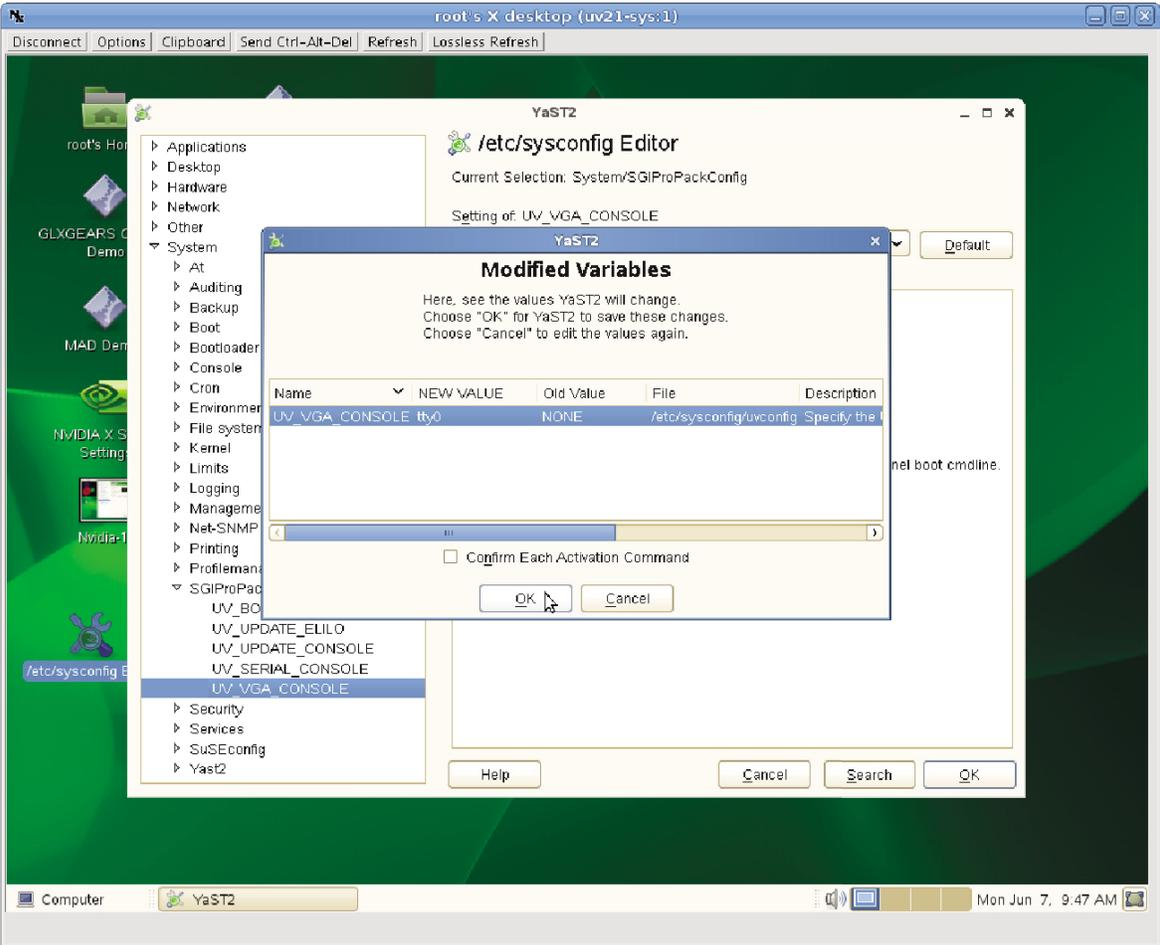

Figure 2-10 YAST 2 /etc/sysconfig Editor Modified Variables Screen
11. When the **Modified Variables** screen appears, as shown in Figure 2-10 on page 37, click OK to save your changes.